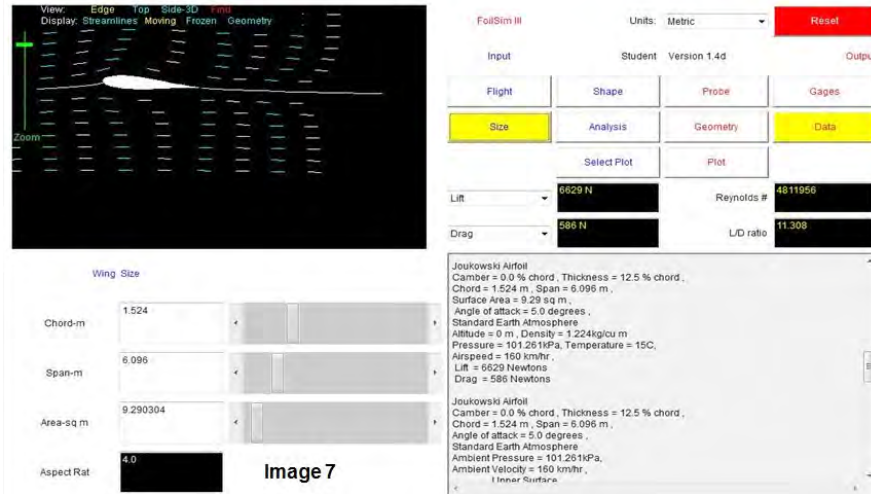

Fig. 6 Beginner’s Guide to Aeronautics, NASA
3. Have the students working as individuals, pairs or teams of 4. Show the students Figure 6. Highlight the parts of the FoilSim III interactive.